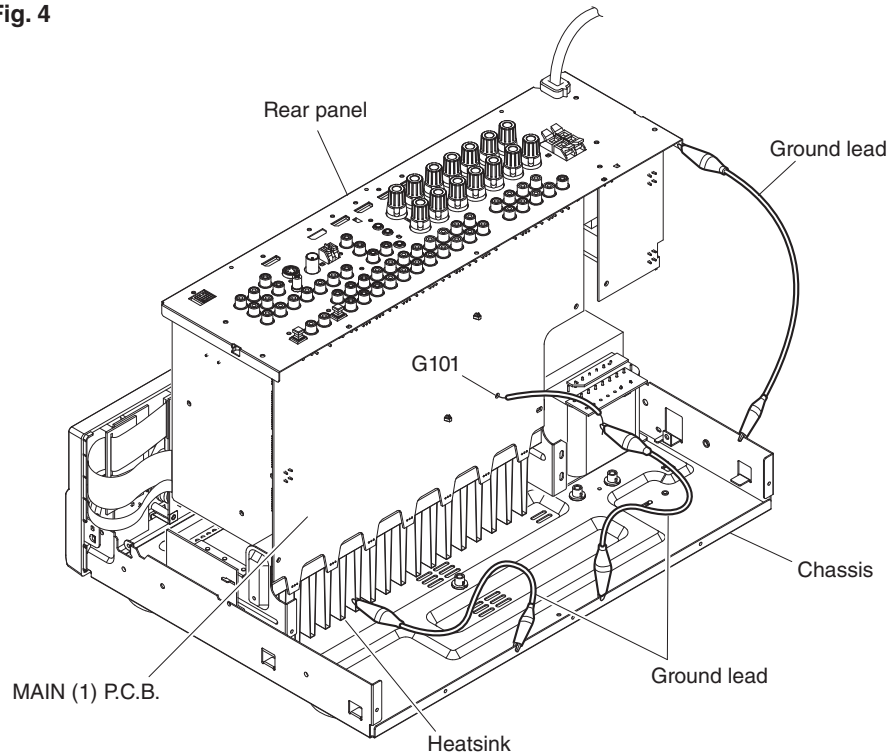

Fig. 5
- Follow the procedure below to place the P.C.B.s (with rear panel) upright. (Fig. 5)
- Connect the ground points of the heatsink, rear panel and MAIN (1) P.C.B. (G101) to the chassis with a ground lead or the like. (Fig. 5)